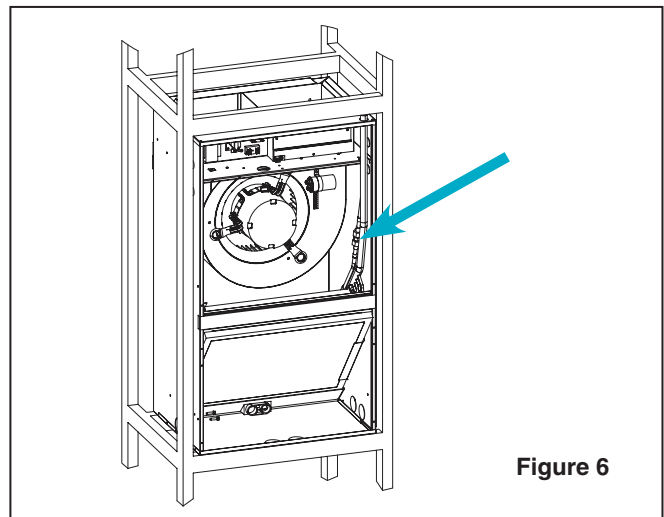

Figure 6
1. Pull back the insulation at the fitting connection. See Figure 6.